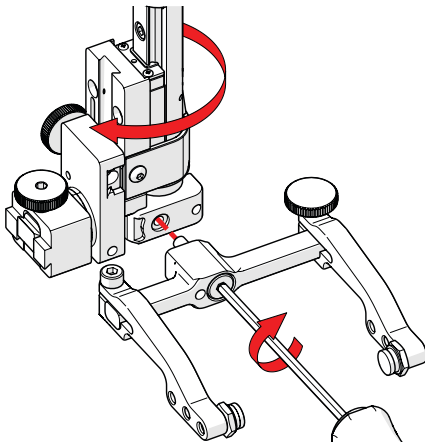

Fig. 124 - Screw yoke to opposite side
- 6.** Mount the yoke to the opposite side of the base using the supplied 3 mm hex driver (*Fig. 124*).